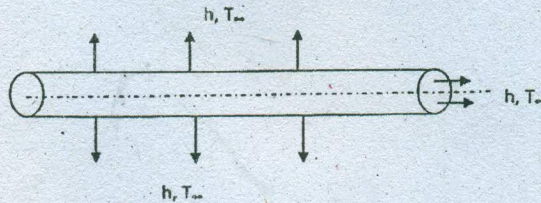

Figure 15 (a)
15. (a) The figure 15 (a) shows a uniform Aluminum fin of diameter 25 mm. The root (left end) of the fin is maintained at a temperature of  $T_0 = 120^\circ\text{C}$ , convection takes place from the lateral (circular) surface and the right (flat) edge of the fin. Assuming  $k = 200\text{ W/m }^\circ\text{C}$ ,  $h = 1000\text{ W/m}^2\text{ }^\circ\text{C}$  and  $T = 20^\circ\text{C}$ , determine the temperature distribution in the fin using one dimensional element, considering two elements.